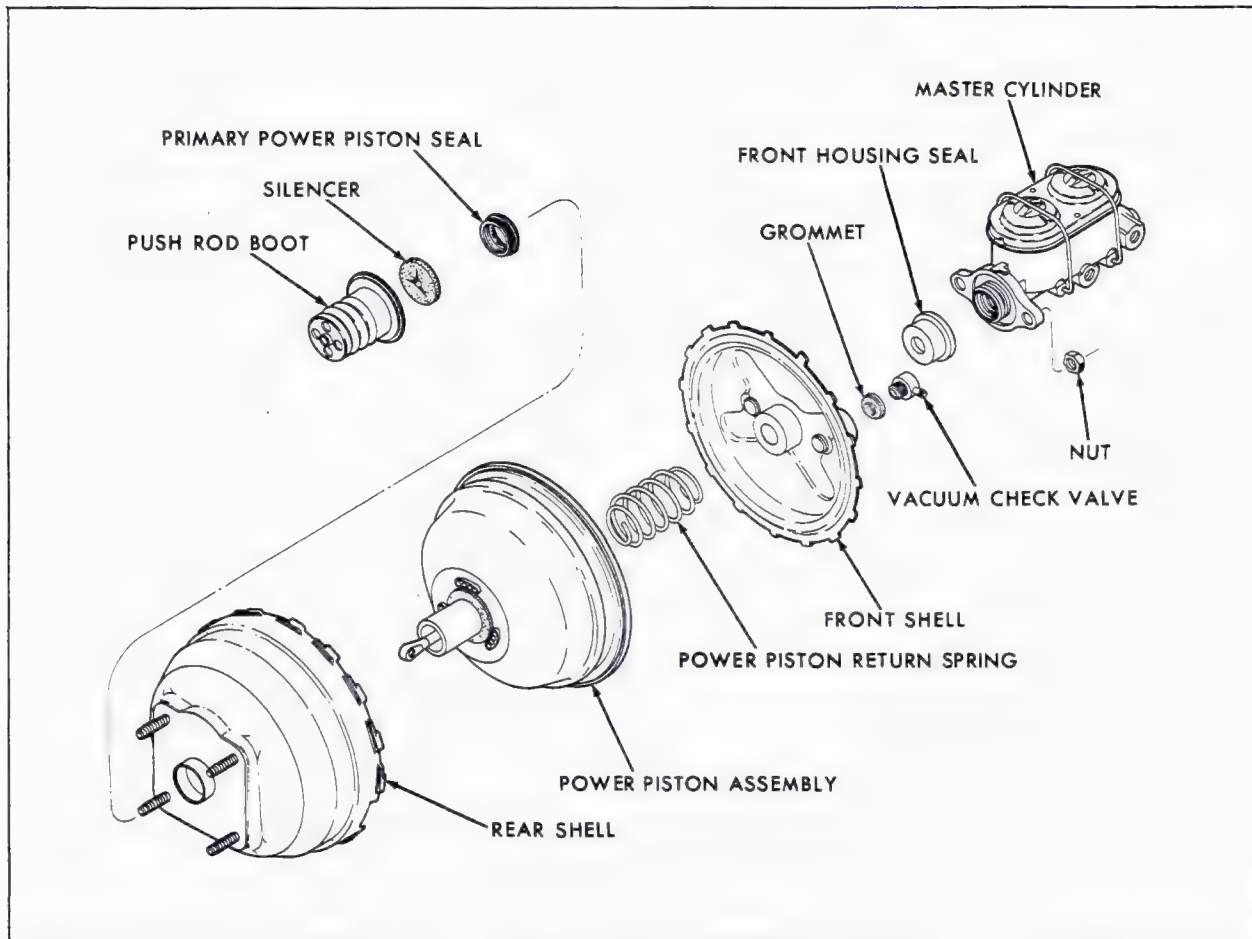

Fig. 5-35 Tandem Diaphragm Power Head Disassembled
5. Back off on hold down clamp sufficiently to remove front shell, return spring, retainer plate and piston rod retainer, Fig. 5-35.